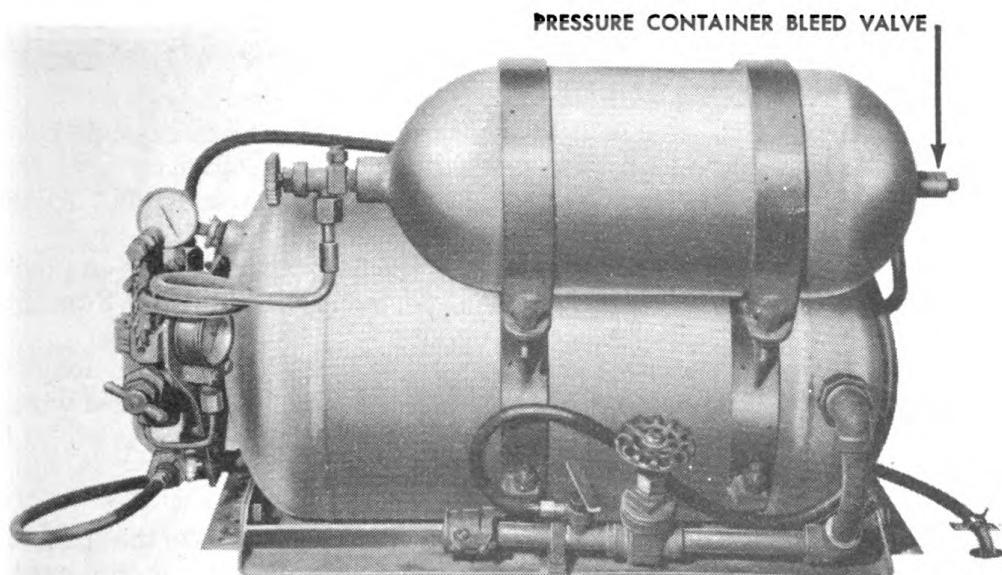

Fig. 23. Sponson fuel group completely assembled.
j. Bleed hose. Attach bleed hose coupling to male connection on top of bleed valve. Other end of bleed hose should be connected to blow-off valve. Tighten with wrench. Fuel and pressure group is now completely assembled (fig. 23).
- a. Using bolts. (1) Slide fuel group against side wall of vehicle, so that rear of base is flush with side wall of vehicle.
(2) Slide fuel group backward on sponson shelf until pressure container touches padding over and in back of assistant driver's position.
(3) Locate position where the four holes are to be drilled through sponson shelf to hold baseplate to sponson shelf. Use center punch to mark location of holes.
(4) Slide fuel group forward and drill two back holes for 1/2-inch bolts. Slide fuel group backward and sidewise. Drill two front holes.
(5) Slide fuel group so that the four holes in sponson shelf and base bracket are alined.
(6) Insert in these holes the four 1/2-inch bolts which come in a cloth bag tied to a brace in sponson fuel group packing box. A man on outside of vehicle applies a nut and lock washer to each of the four bolts. He tightens the nuts while the man inside the vehicle holds them with a wrench.
- c. Make an improvised clamp to hold inside portion of hose in place on the shelf. Bolt or tack weld clamp to shelf approximately 2 inches from the hole. Wire the hose to the clamp (fig. 23).